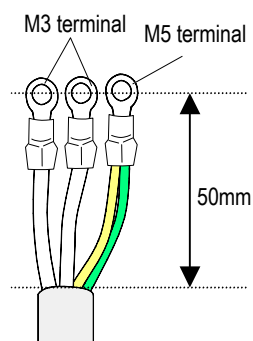

Figure 1.4.36 Terminal Form for Subsystem Side
The specification of the Power Unit (DC) cable and the terminal form for the subsystem side are shown in Table 1.4.7 and Figure 1.4.36.